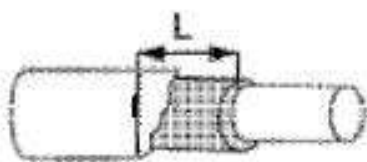

Figure 213
- c. Inter-tape or frayed insulation exposure-"L" (Figure 213) exceeds 0.039 in. (1 mm) or 50% of the insulation outside diameter whichever is greater.